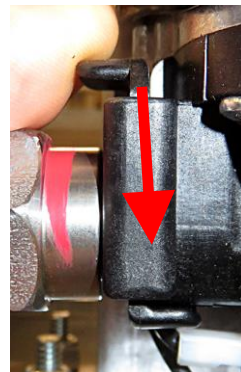

Figure 9
11. On the inlet side of the ATO pump, push down on the quick disconnect lock clip to unlock the fitting (see Figures 9 and 10).